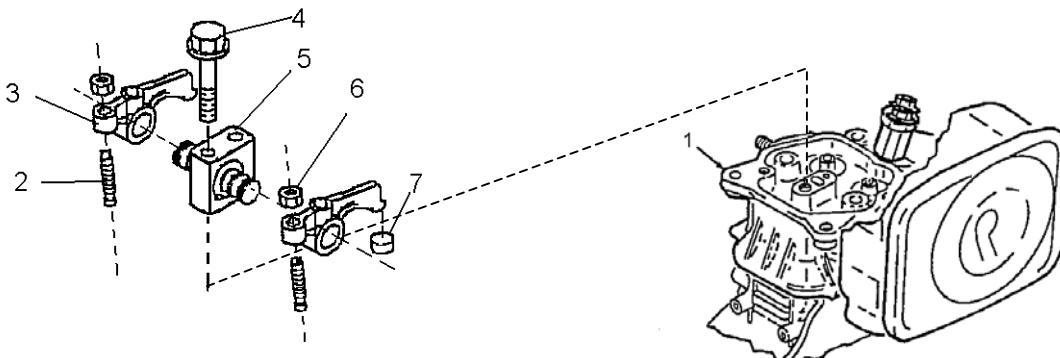

Figure 1. Rocker Arm Assembly.
1. Remove rocker arm support (5) from cylinder head (1) by removing two screws (4). See Figure 1.